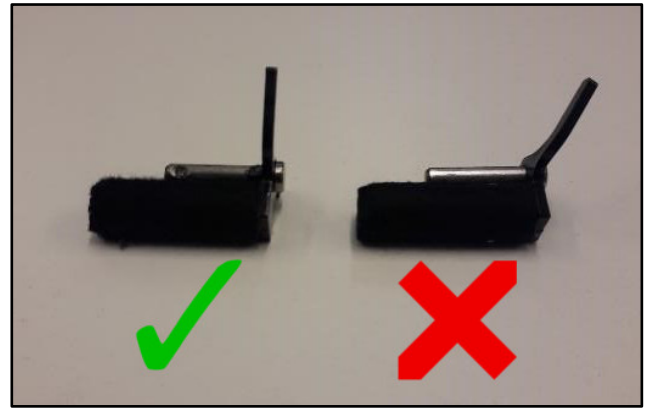

Figure 39
2. Using an applicable tool, straighten the lock mechanism (refer to Figure 39).